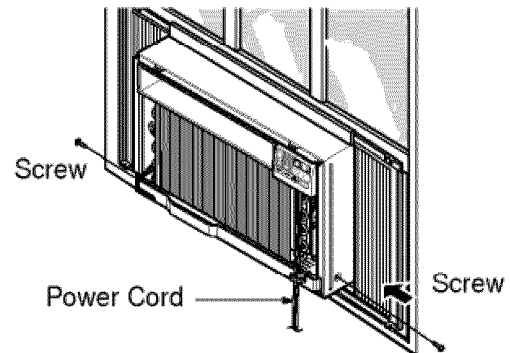

Fig. 7
- 7 Slide the unit into the cabinet.(See Fig. 7)